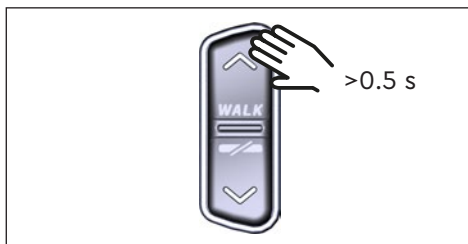

Fig. 7: Activate walk assist
- ▶ When the e-bike is at stand-still, press the UP button on the Remote for longer than 0.5 s (see Fig. 7) to activate the walk assist.